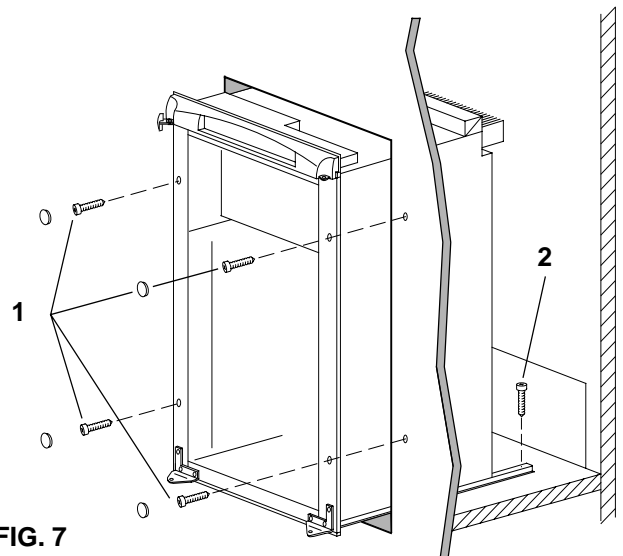

FIG. 7
**STEP 1: Four screws installed through the front frame. See fig. 7.**
**STEP 2: One screw installed in rear base. See fig. 7.**